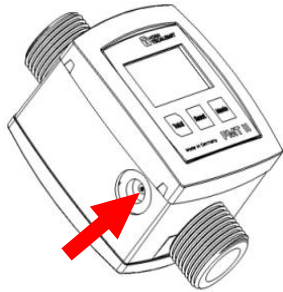

Figure 1
1. Unscrew the venting screw (*fig. 1*)